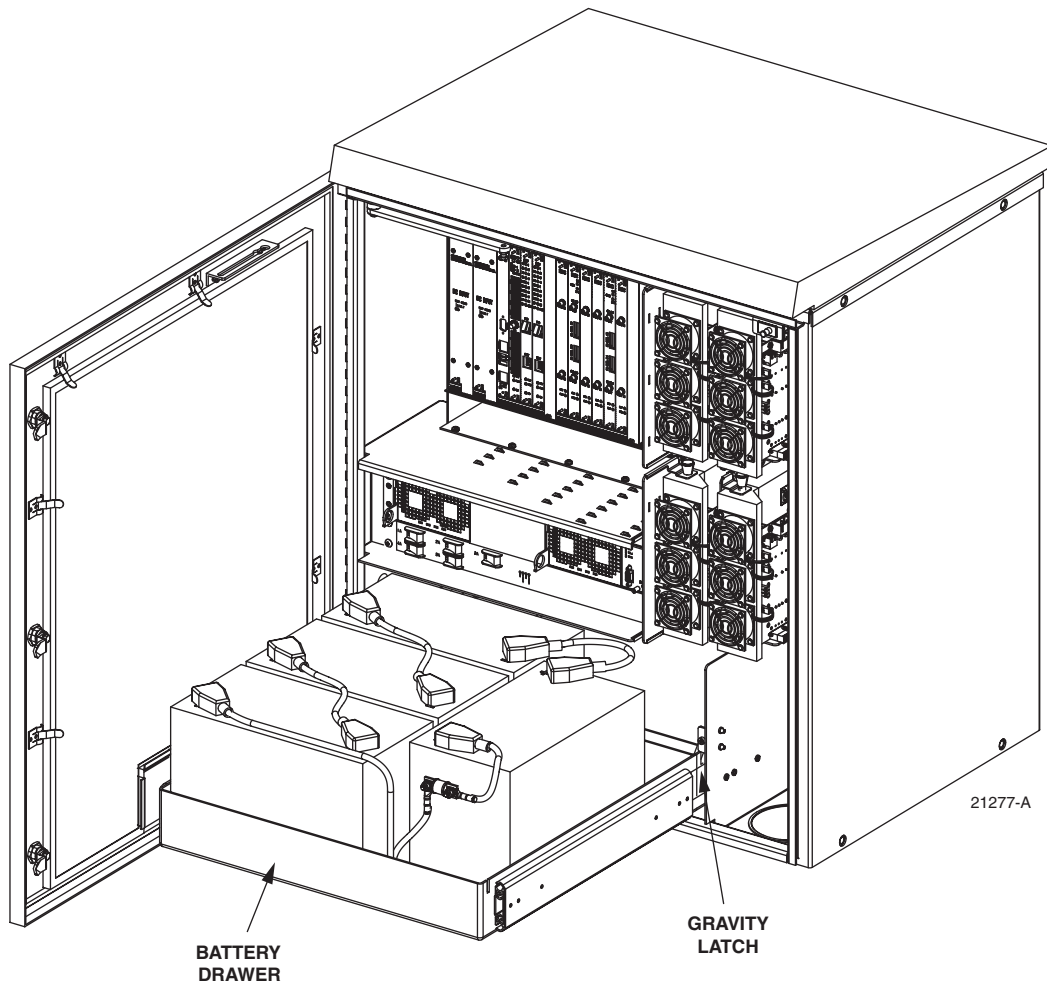

Figure 34. Open Battery Drawer
3. Move the gravity latch in the battery drawer to the up position. Refer to Figure 34.